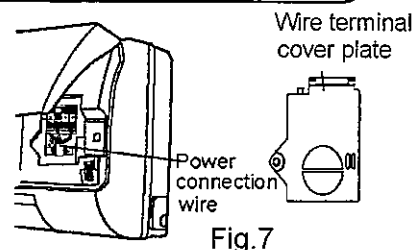

Fig.7
2. Screw off the fixing screw of cover plate and screw off cover plate (Fig. 7)